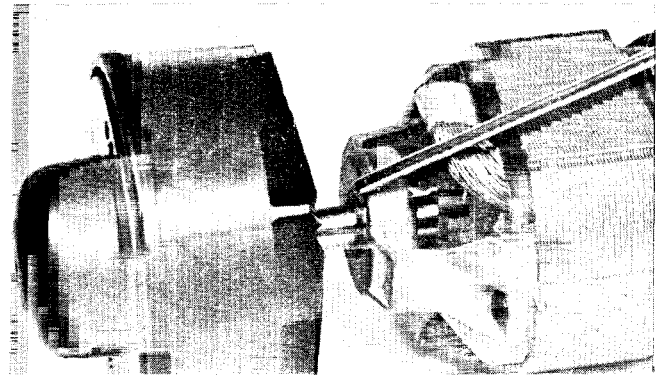

Figure 2.01
2.01 CLEAN HEAD AND TEST (fig. 2.01)